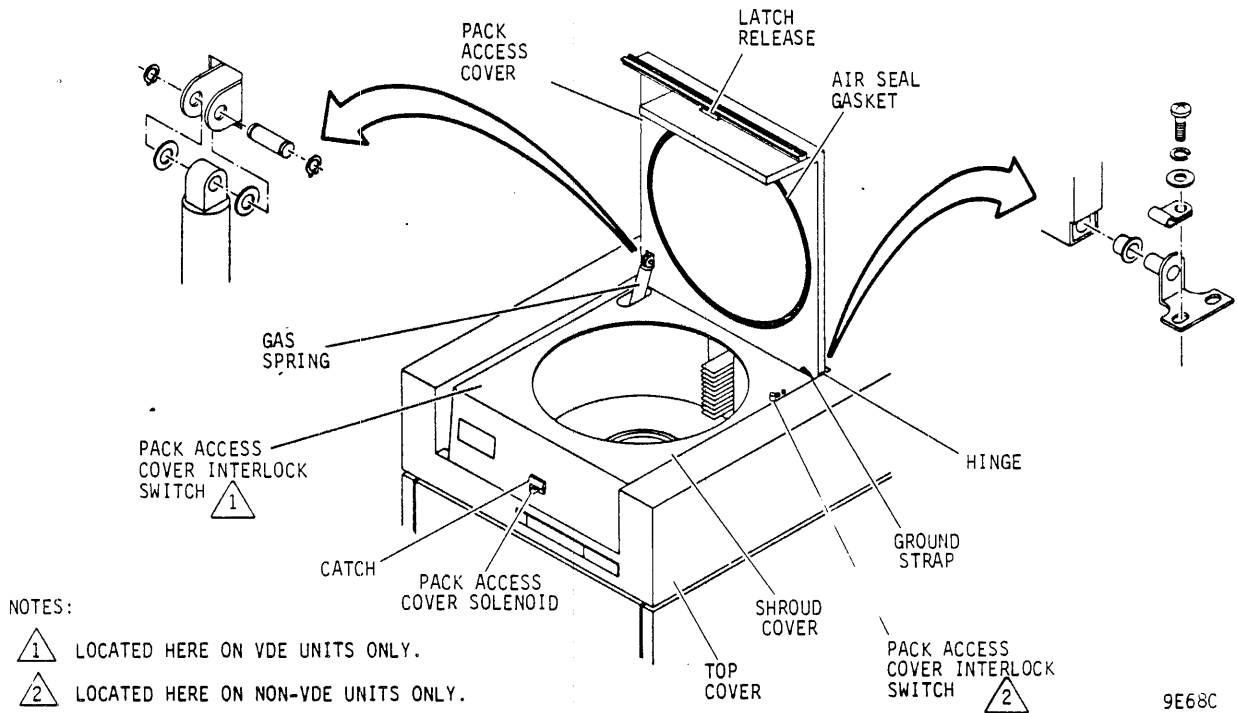

Figure 2-8. Pack Access Cover
Raising the pack access cover allows access to the disk pack and shroud area of the drive. Once opened, the cover is held in place by a gas spring (refer to figure 2-8). A solenoid, located on the front of the shroud cover, prevents accidental opening of the pack access cover while the drive is in use or when the drive is completely powered down. In fact, the only time the cover can be opened (without overriding the solenoid) is when the MAIN AC circuit breaker is ON, but the START switch is OFF.
2. Secure gas spring to pack access cover using pin, nylon spacers and C clip (refer to figure 2-8).